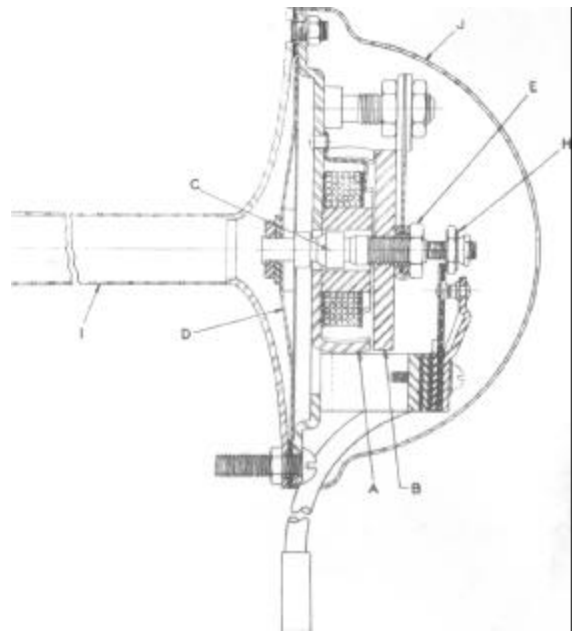

Figure 41--Electric Air Horn
1. Remove the motor cover (J), Figure 41, and with the engine speeded up to give the maximum charging rate, move the adjusting nut (H) up or down until the desired tone is obtained. Lock adjusting nut in the position with its lock nut.